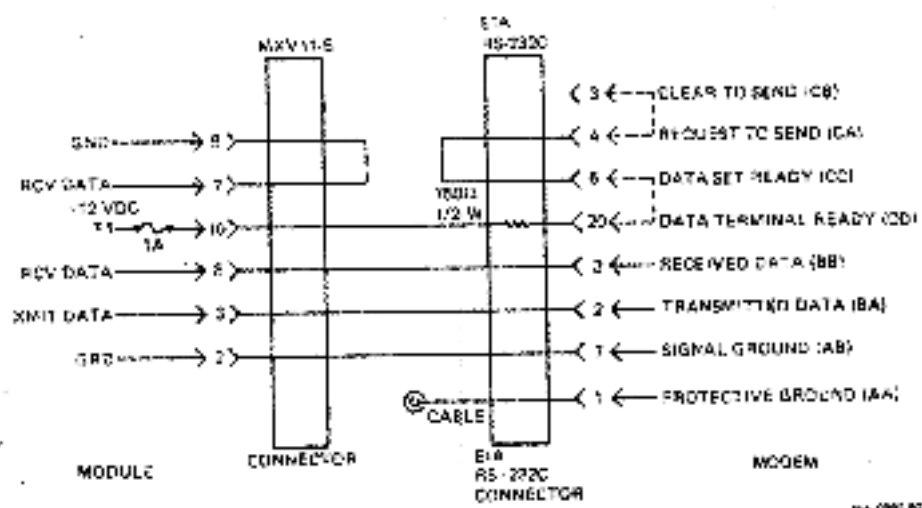

Figure 2-11 BC21B-05 Modem Cable
1. To connect directly to a local EIA RS-232C terminal, you must use a null modem. To design the null modem into the cable, switch Received Data (pin 2) with Transmitted Data (pin 3) on the RS-232C male connector as shown (Figure 2-11).